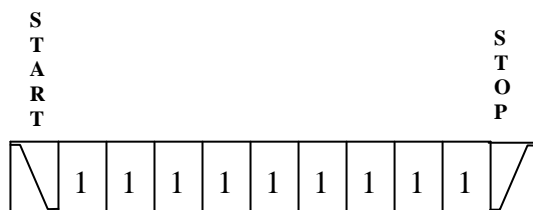

Figure 4: Software reset
- 1) Master device sends a START condition while the EEPROM is executing a read instruction and sending bit “0” to master device, because SDA is being driven low by EEPROM, EEPROM cannot recognize this START condition and thus cannot make software reset happen. In order to solve this kind of issue, master device need to send nine sequential bits “1” after START condition, thus EEPROM will not be able to get the response from master device, therefore force an internal reset to be generated, Shown in figure 4.